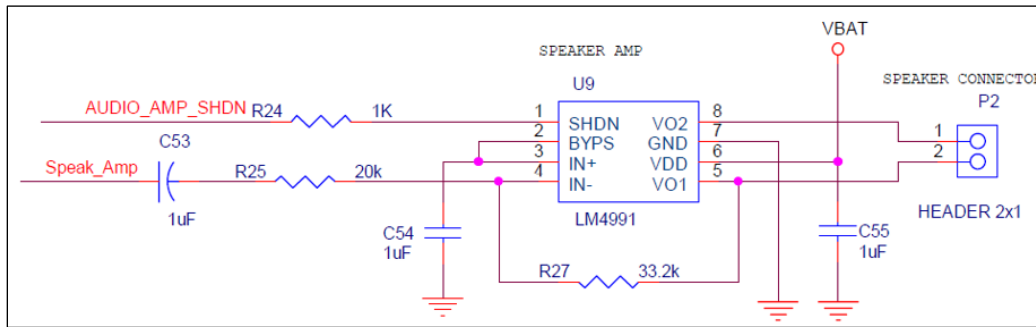

Fig 24-16 Reference design of using AB type power amplifier
- If the power amplifier is an AB type amplifier, refer to the design shown in Fig 24-16 (power amplifier is LM4991).